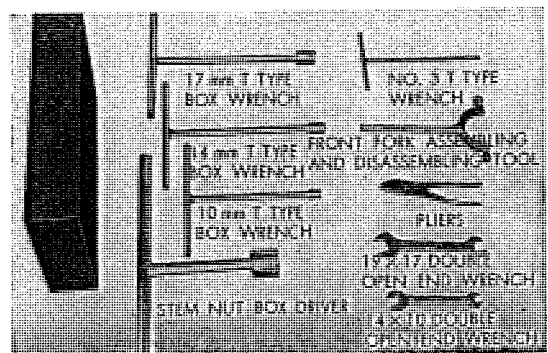

Fig. 4.12 Tools used of disassembly and assembly of front cushion
1. Tools required for disassembly and assembly of the front cushion. (Refer to Fig. 4.12)